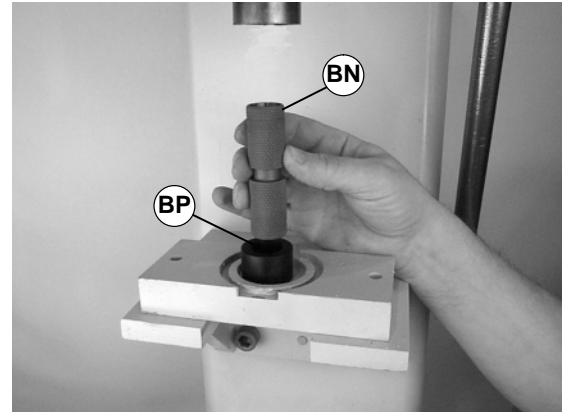

Figure 51
1. Orient bearing anvil/sleeve removal tool (part # 25-09☆) (BP of Figure 51) with cavity facing up and place pulley (BN) onto tool.